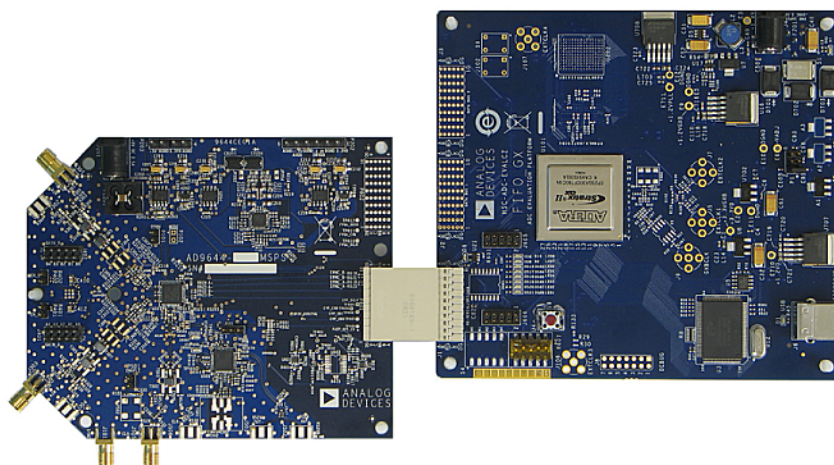
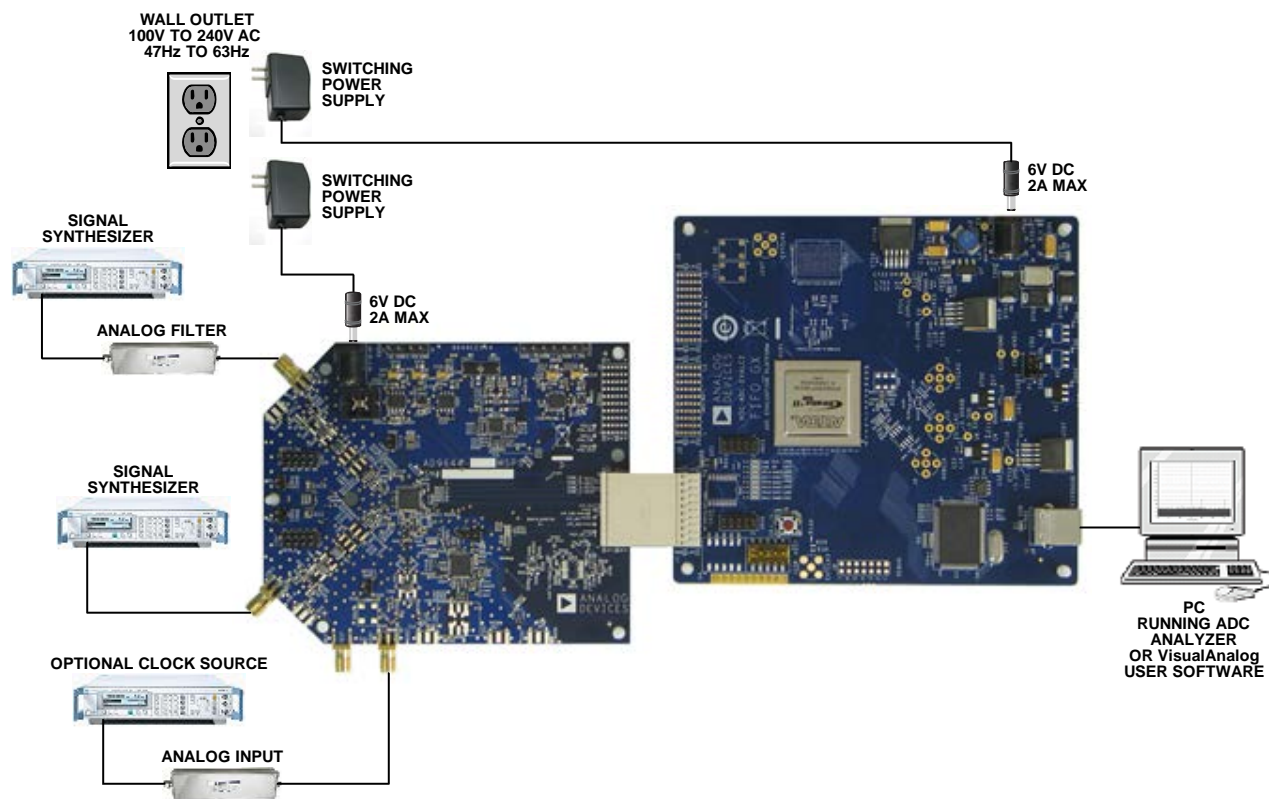

Figure 1. **AD9644/AD9641** Evaluation Board and FIFO-GX Data Capture Board
Figure 2. AD9644/AD9641 Evaluation Board Connection
The AD9644 and AD9641 evaluation boards provide all of the support circuitry required to operate the parts in various modes and configurations. Figure 2 shows the typical bench characterization setup used to evaluate the ac performance of the AD9644 or AD9641. It is critical that the signal sources used for the analog input and clock have very low phase noise ( $<1$  ps rms jitter) to realize the optimum performance of the signal chain. Proper filtering of the analog input signal to remove harmonics and lower the integrated or broadband noise at the input is necessary to achieve the specified noise performance. The AD9644 evaluation board supports dual-channel operation for the AD9644. The AD9641 evaluation board supports single-channel operation for the AD9641.
1. Connect the AD9644 or AD9641 evaluation board to the FIFO-GX data capture board, as shown in Figure 1 and Figure 2.